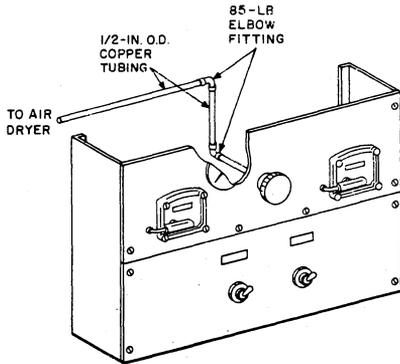

Fig. 7—Piping Arrangement for Separately Installed Meter-Panel
5.06 When meter-panels are installed *separately*, the connection to the pressure regulator port is made with an elbow fitting, as shown in Fig. 7.